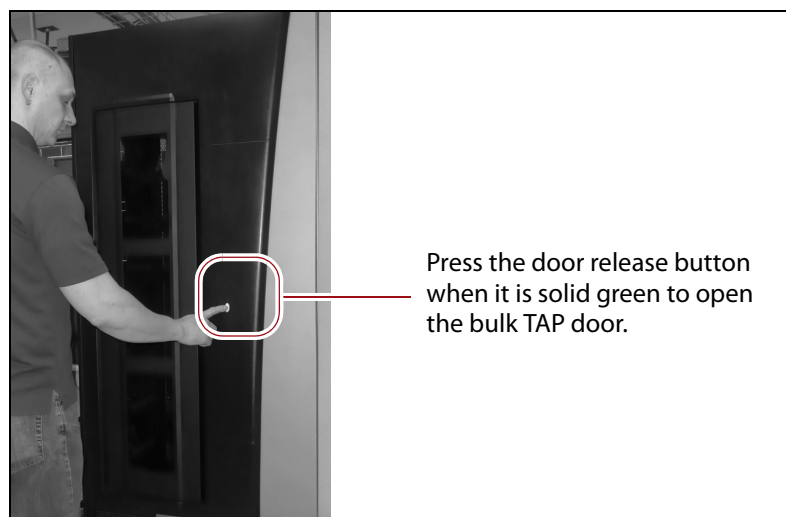

Figure 153 Press the door release button to open the door.
- c. When all of the magazines are retrieved or when the bulk TAP is full, the carousel rotates to face the outside of the library and the door release button LED turns solid green. Press the button to open the bulk TAP door (see Figure 153 on page 244).